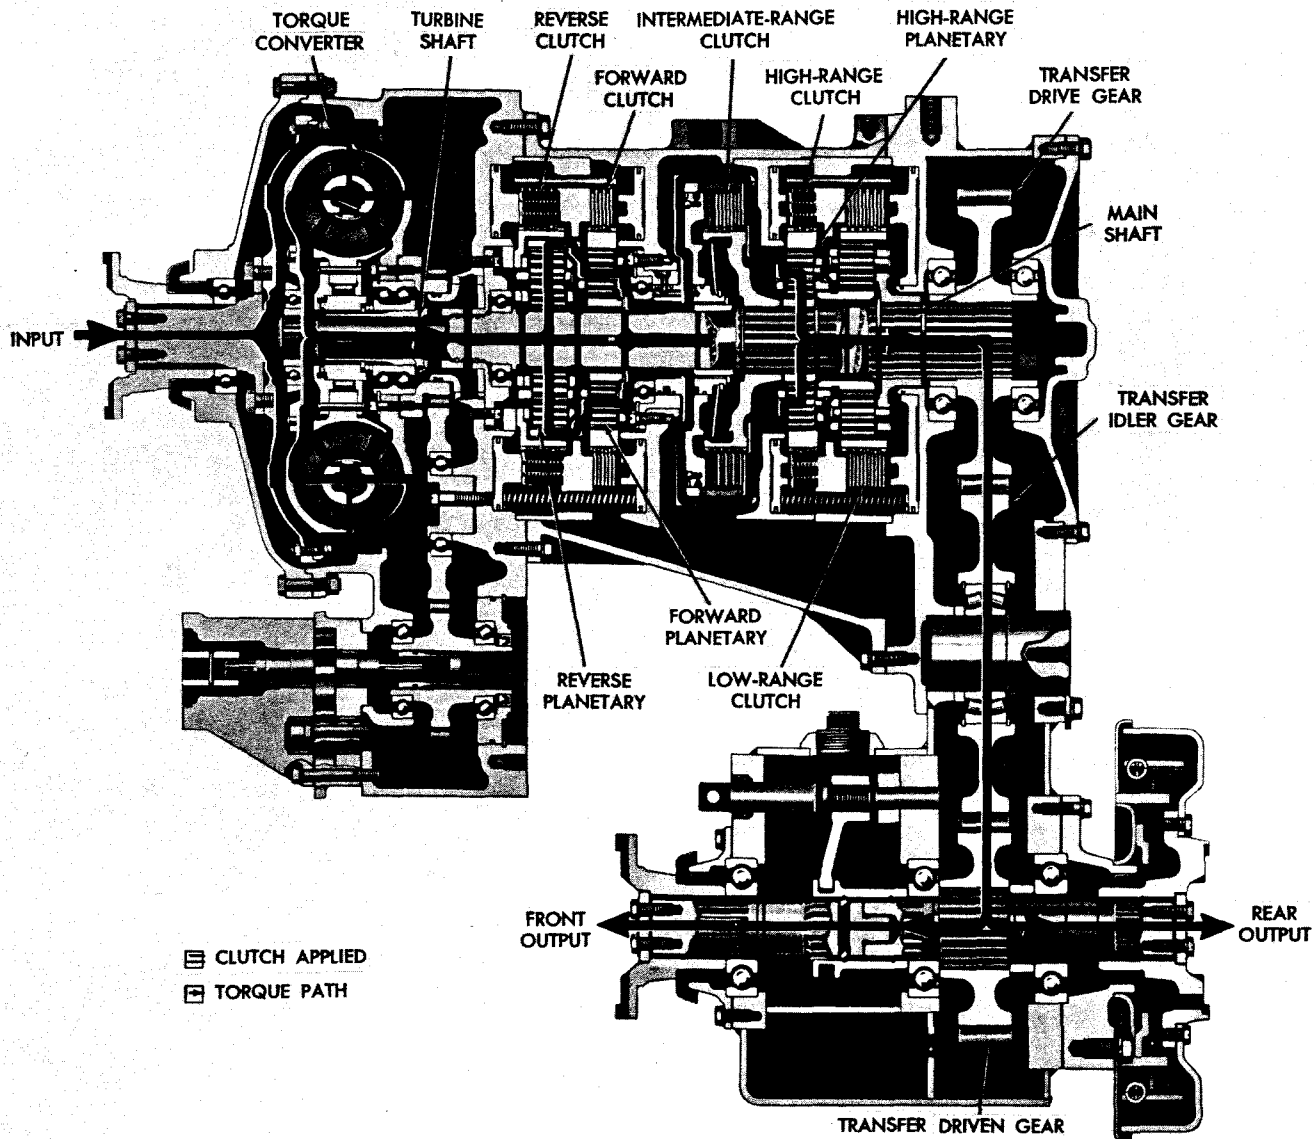

Fig. II-7. Reverse, high range—torque path (CRT 3531-1 or CRT 3630-1)
29. TORQUE PATH — REVERSE, HIGH RANGE (fig. II-7)